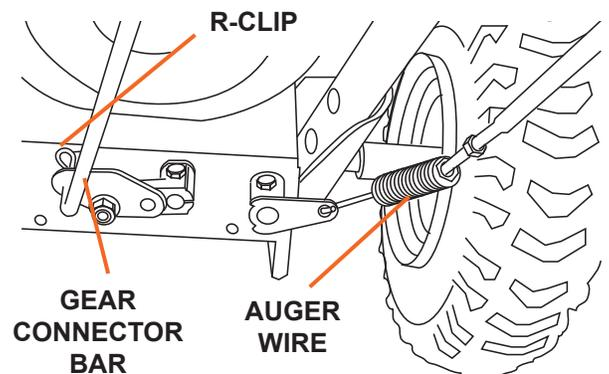

Figure 3
3. Attach the auger wire on the right side of the snow blower (see Figure 3). Remove the R-clip that connects the auger wire to the control lever on the handlebars, then slip the wire off. Attach the other end of the auger wire with the spring mechanism to the connection and reattach the auger wire to the control lever reinserting the R-clip. After connecting the wire adjust the tension. The wire should be taught when connected. (See Control Wire Adjustment, page 23 of the Operation Manual).
4. Attach the speed shift rod and secure with a R-clip that has been included (see Figure 3).